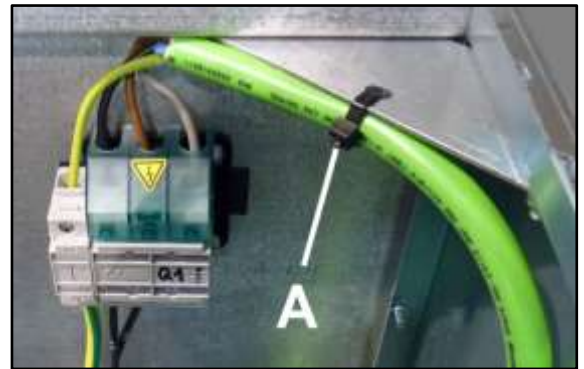

Fig. 3.7
- In models **HS-6024** and **EH060**, pass the conductor through the cable tie (**A**) and secure it as shown in Fig.3.7.